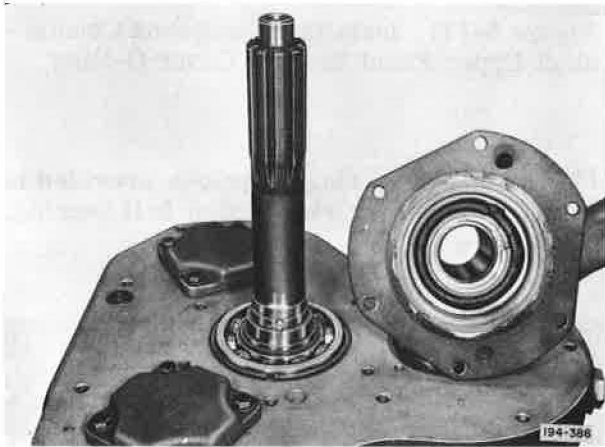

Figure 5-174. Gasket Installed on Compound Main Driving Pinion Bearing Cover
19. Apply a thin coating of gasket sealer to the compound main driving pinion bearing cover mounting flange. Place new gasket on wet sealer and align all bolt and oil holes. See Figure 5-174.